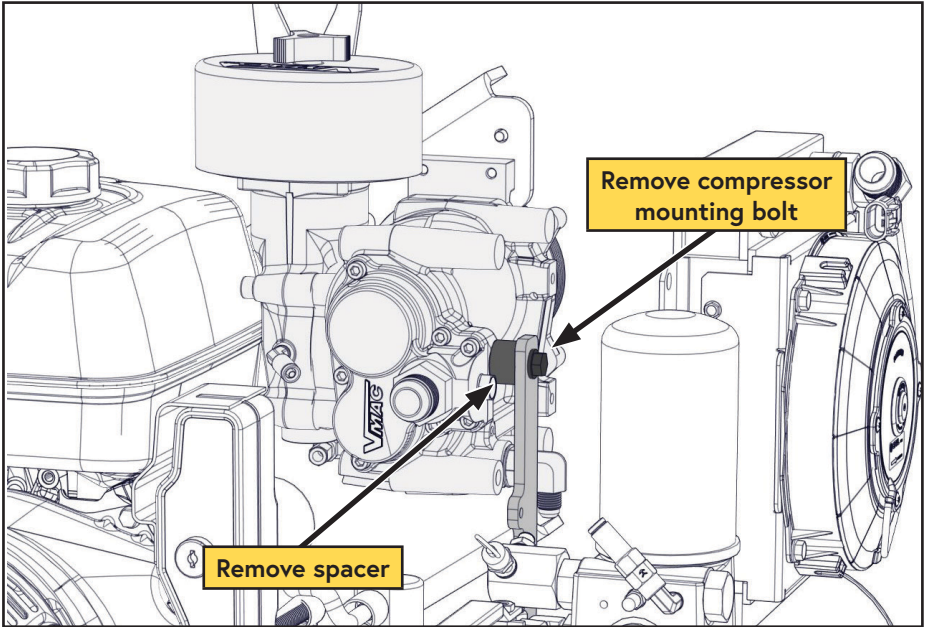

Figure 66 — Remove compressor
□ Remove the bolt from the side of the compressor (Figure 66).